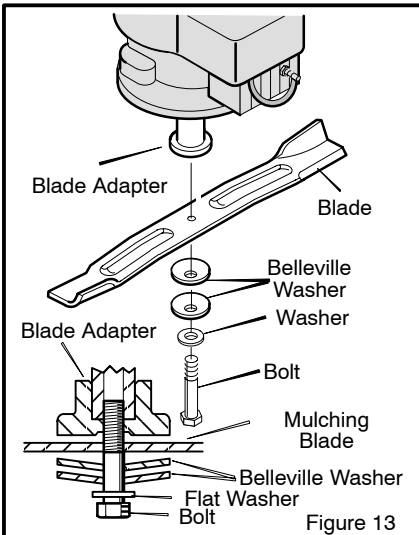

Figure 13
7. Fasten the **blade** with the original **washers** and **bolt**. Make sure the outside rims of the **Belleville washers** are toward the **blade** (Figure 13).